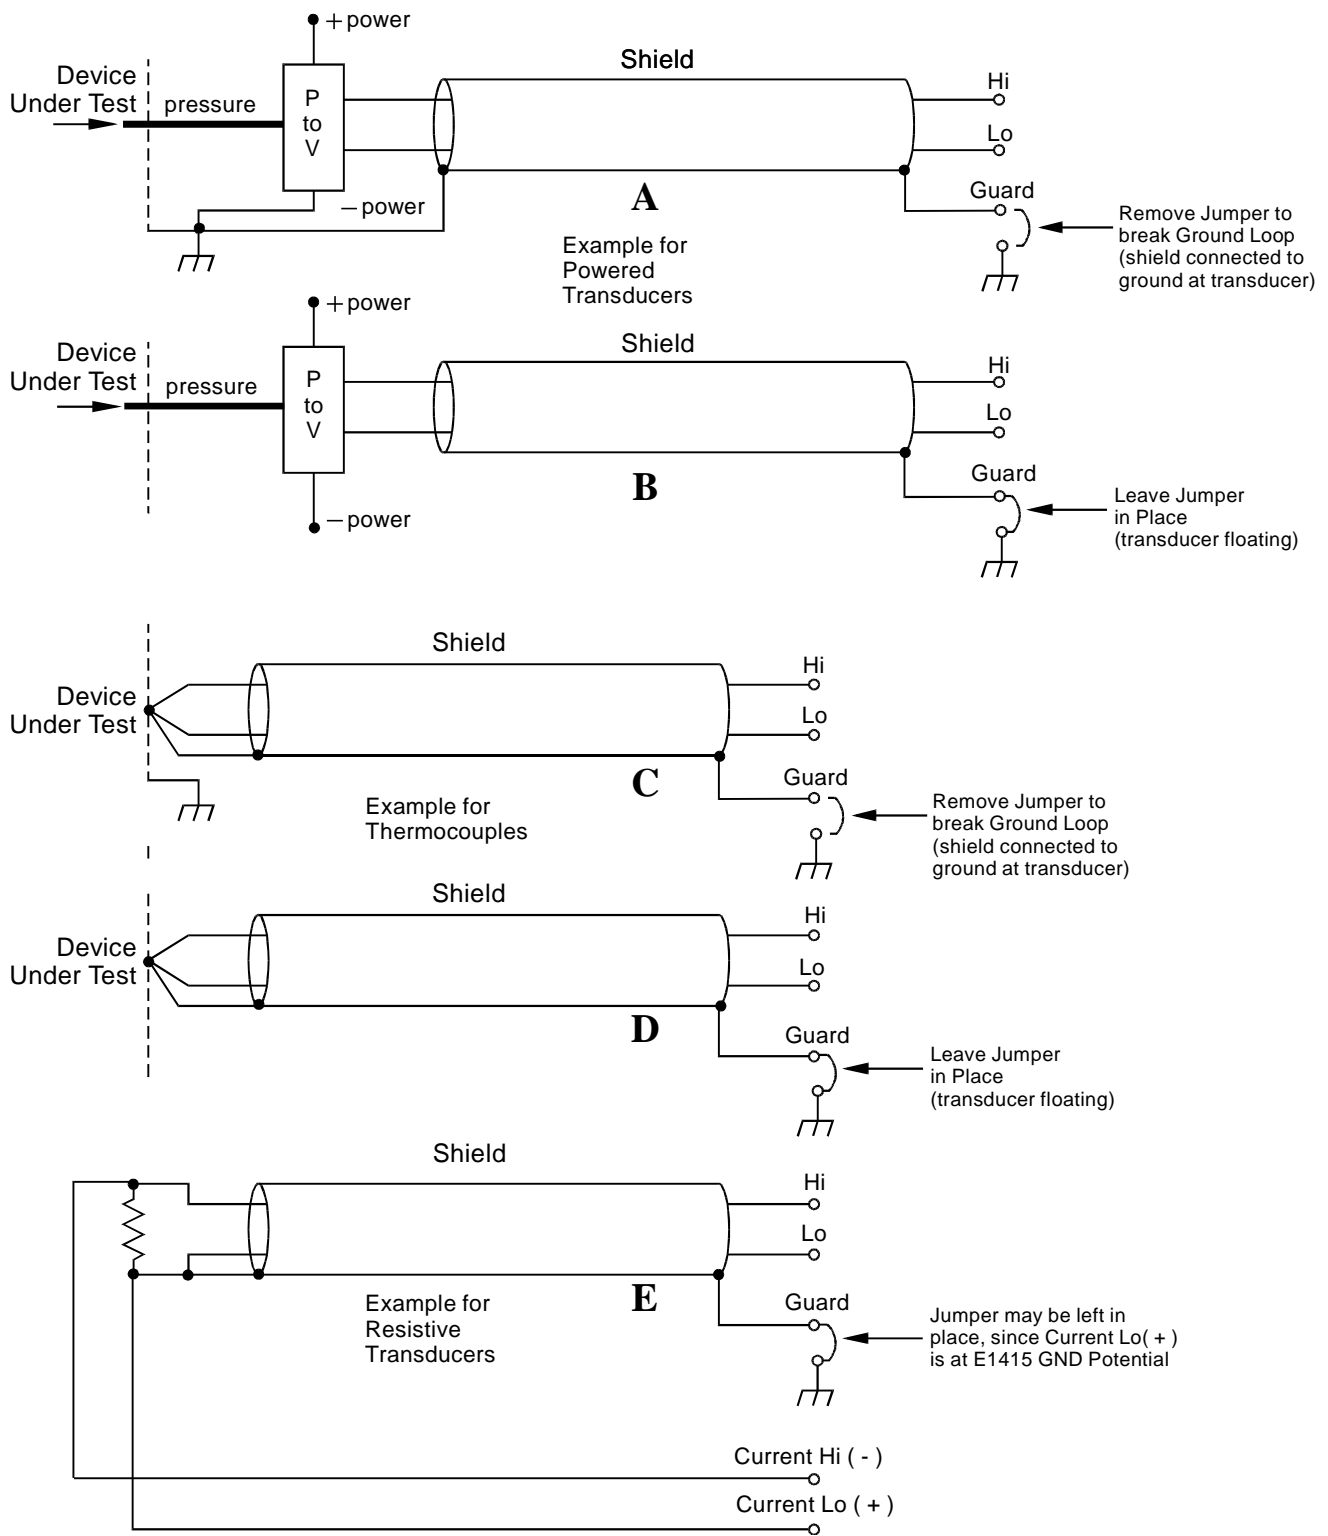

Figure 2-6. Preferred Signal Connections
For any A/D Module to scan channels at high speeds, it must use a very short sample period (<10µsecond for the HP E1415). If significant normal mode noise is presented to its inputs, that noise will be part of the measurement. To make quiet, accurate measurements in electrically noisy environments, use properly connected shielded wiring between the A/D and the device under test. Figure 2-6 shows recommended connections for powered transducers, thermocouples, and resistance transducers. (See Appendix E page 361 for more information on Wiring Techniques).
- a. **Grounded Transducer with shield connected to ground at the transducer:** Low frequency ground loops (DC and/or 50/60Hz) can result if the shield is also grounded at the Terminal Module end. To prevent this, remove the GND-GRD jumper for that channel (Figure 2-6 A/C).
- b. **Floating Transducer with shield connected to the transducer at the source:** In this case, the best performance will most likely be achieved by leaving the GND-GRD jumper in place (Figure 2-6 B/D).